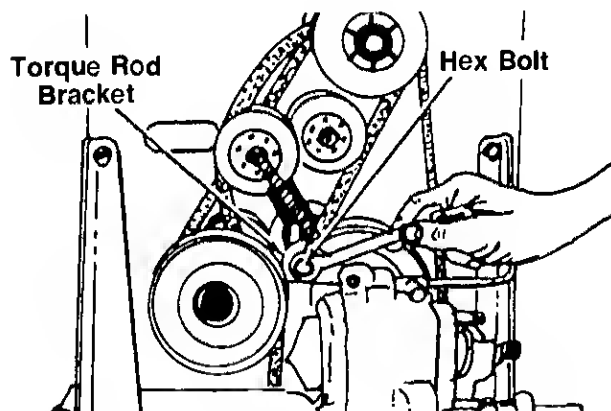

FIGURE 29.
7. Remove the hex bolt which holds the torque rod bracket to the torque rod, and remove bracket. See figure 29.